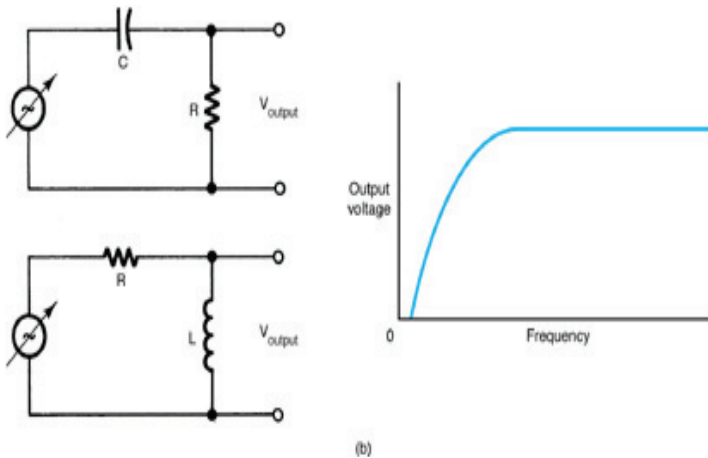

Figure 19.3 High-pass filters. (a) Series RC high-pass filter. (b) Series RL high-pass filter. (c) Frequency response curve of high-pass filter.
Figure 19.3 shows two types of high-pass filters and a typical frequency response curve. The series RC circuit of **Figure 19.3(a)** is a common type of RC filters. The voltage output (V_{out}) is taken across the resistor (R). As frequency increases, X_C decreases. A decrease in X_C causes current flow to increase. The voltage output across the resistor (V_{out}) is equal to current (I) times the resistance (R), or $I \times R$. So, as I increases, V_{out} increases. As frequency increases, X_C decreases, I increases, and V_{out} increases.
A series RL circuit such as that shown in **Figure 19.3(b)** may also be used as a high-pass filter. In this circuit, the V_{out} is taken across the inductor. As the applied frequency increases, X_L increases, and V_{out} also increases. In
this circuit, as frequency increases, X_L increases and V_{out} increases. Note the shape of the frequency response curve of **Figure 19.3(c)**, showing that as the frequency increases, the voltage output increases. Again, as with the series RL low-pass filter, the cutoff frequency (f_c) occurs when $X_L = R$. Thus,
Calculate the cutoff frequency of a high-pass filter circuit shown in **Figure 19.3**. Assume that the value of $R = 650 \Omega$ and $L = 10 \text{ mH}$.
Calculate the cutoff frequency of a low-pass filter circuit shown in **Figure 19.3**. Assume that the value of $R = 100 \Omega$ and $L = 5 \text{ mH}$.